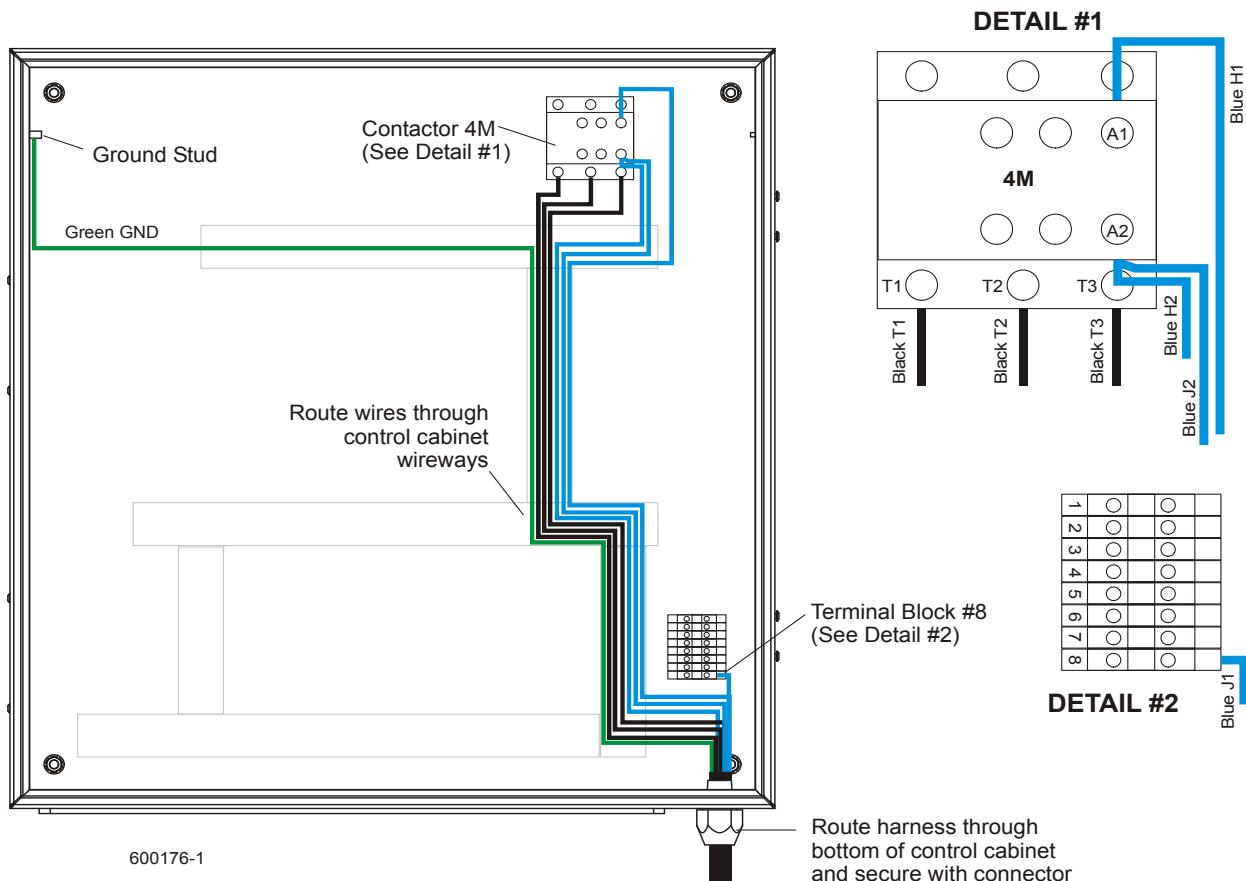

FIG. 2-6
5. Connect the red motor and light wires to the **left motor terminal** and replace the terminal nut to secure the wires. **Reference figure 2-6.**
See Figure 2-6. Only wires listed above are shown.